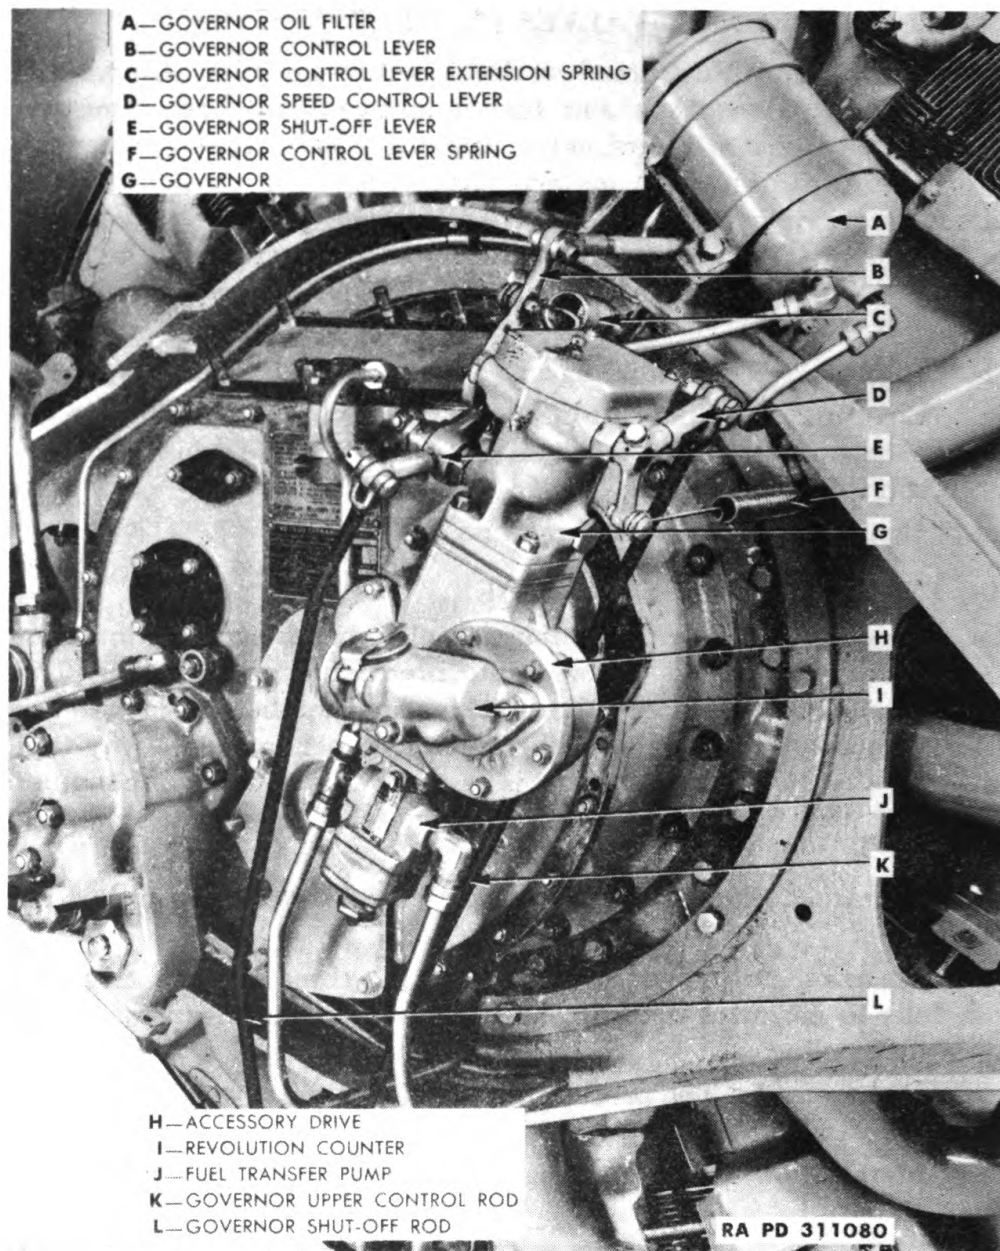
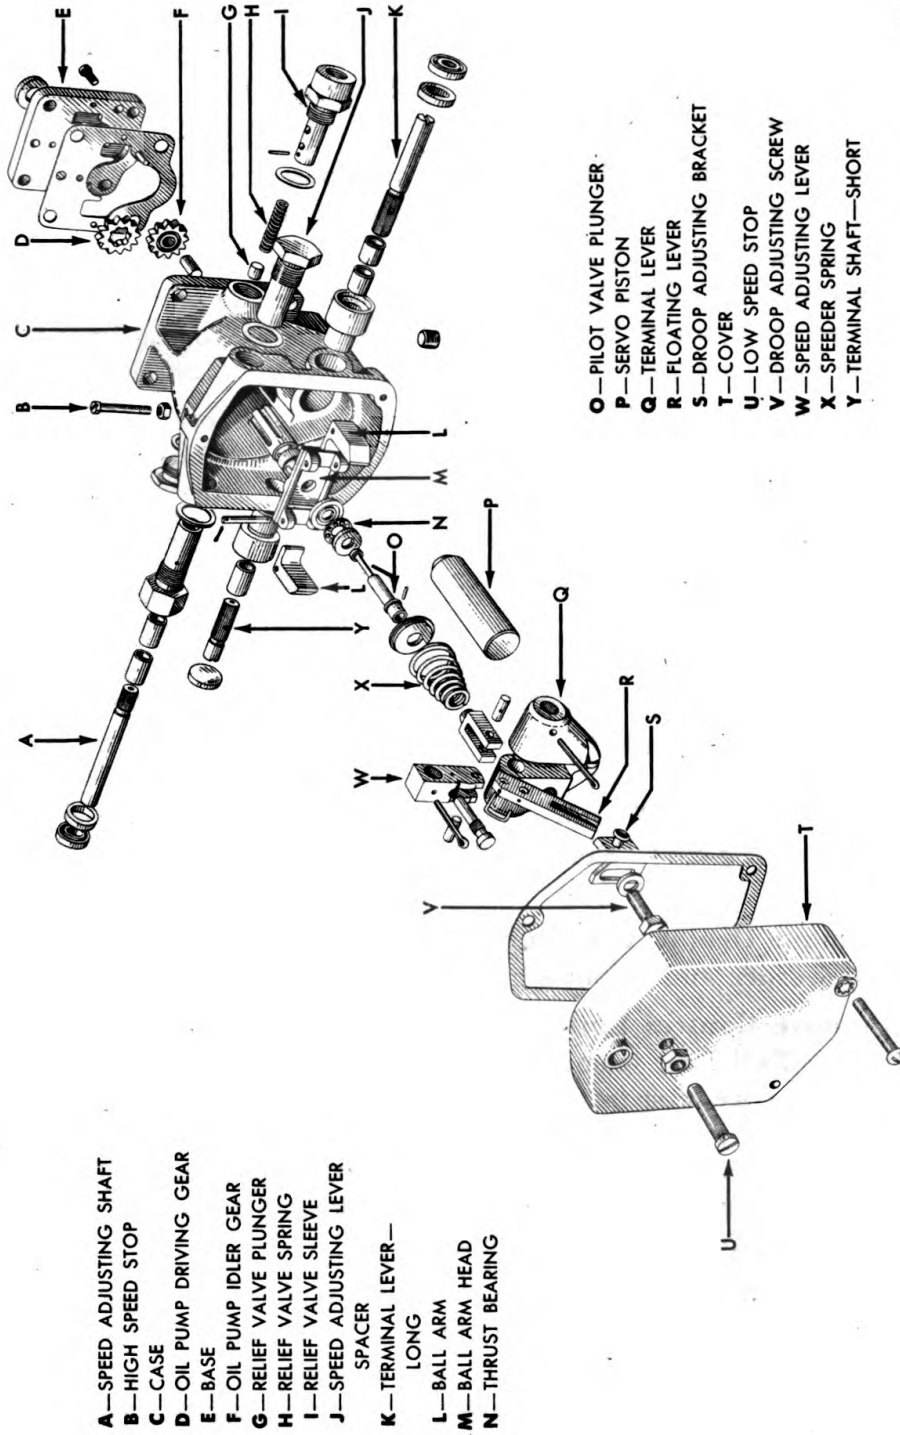

Figure 73 — Governor and Controls
Figure 74 — Governor Disassembled
a. **Remove Governor.** With control rods and levers removed, remove four nuts attaching governor to housing. Pull governor and gasket off studs (fig. 73).
a. **Remove Cover.** Remove three cover screws and lift cover and gasket off case (fig. 74). Remove the high speed and low speed stops and lock nuts.
a. **Install Governor.** Place gasket and governor on studs and attach with four nuts (fig. 73). Be certain governor name plate faces engine.
b. **Install Control Levers** (fig. 73). If original governor has been reinstalled, place speed control lever and shut-off lever in their original location and pin in place. If a replacement governor has been installed it will be necessary to relocate position of levers on their respective shafts. Position shut-off lever on terminal shaft (fig. 74) so that rod from lever to engine is in the full forward position when terminal shaft is rotated fully counterclockwise. Position speed control lever on speed adjusting shaft (fig. 74) so that governor does not restrict full travel of accelerator pedal and so that correct low and high idle speeds may be obtained.
c. **Set Low and High Idle Speeds** (fig. 73). These adjustments must be made with engine running. Loosen lock nut on set screw located on top of governor cover. With throttle in closed position, adjust screw to obtain a low idle speed of 650-750 revolutions per minute. Tighten lock nut and lock wire. Loosen lock nut on set screw on back side of governor housing. With throttle in fully advanced position, adjust screw to obtain a high idle speed of 2,050 to 2,200 revolutions per minute. Tighten lock nut and lock wire.